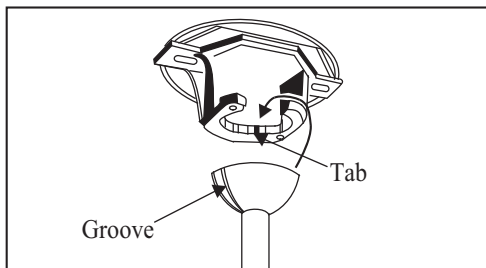

Figure 8
4. Carefully lift the fan assembly up to the ceiling mounting bracket and seat the hanger ball in the mounting bracket socket. Make sure the tab on the mounting bracket socket is properly seated in the groove in the hanger ball (Figure 8). This will help to balance the ceiling fan.
THE TAB IN THE RING MUST REST IN THE GROOVE OF THE HANGER BALL AS FIGURE 8. FAILURE TO PROPERLY SEAT THE TAB IN THE GROOVE COULD CAUSE DAMAGE TO WIRING.